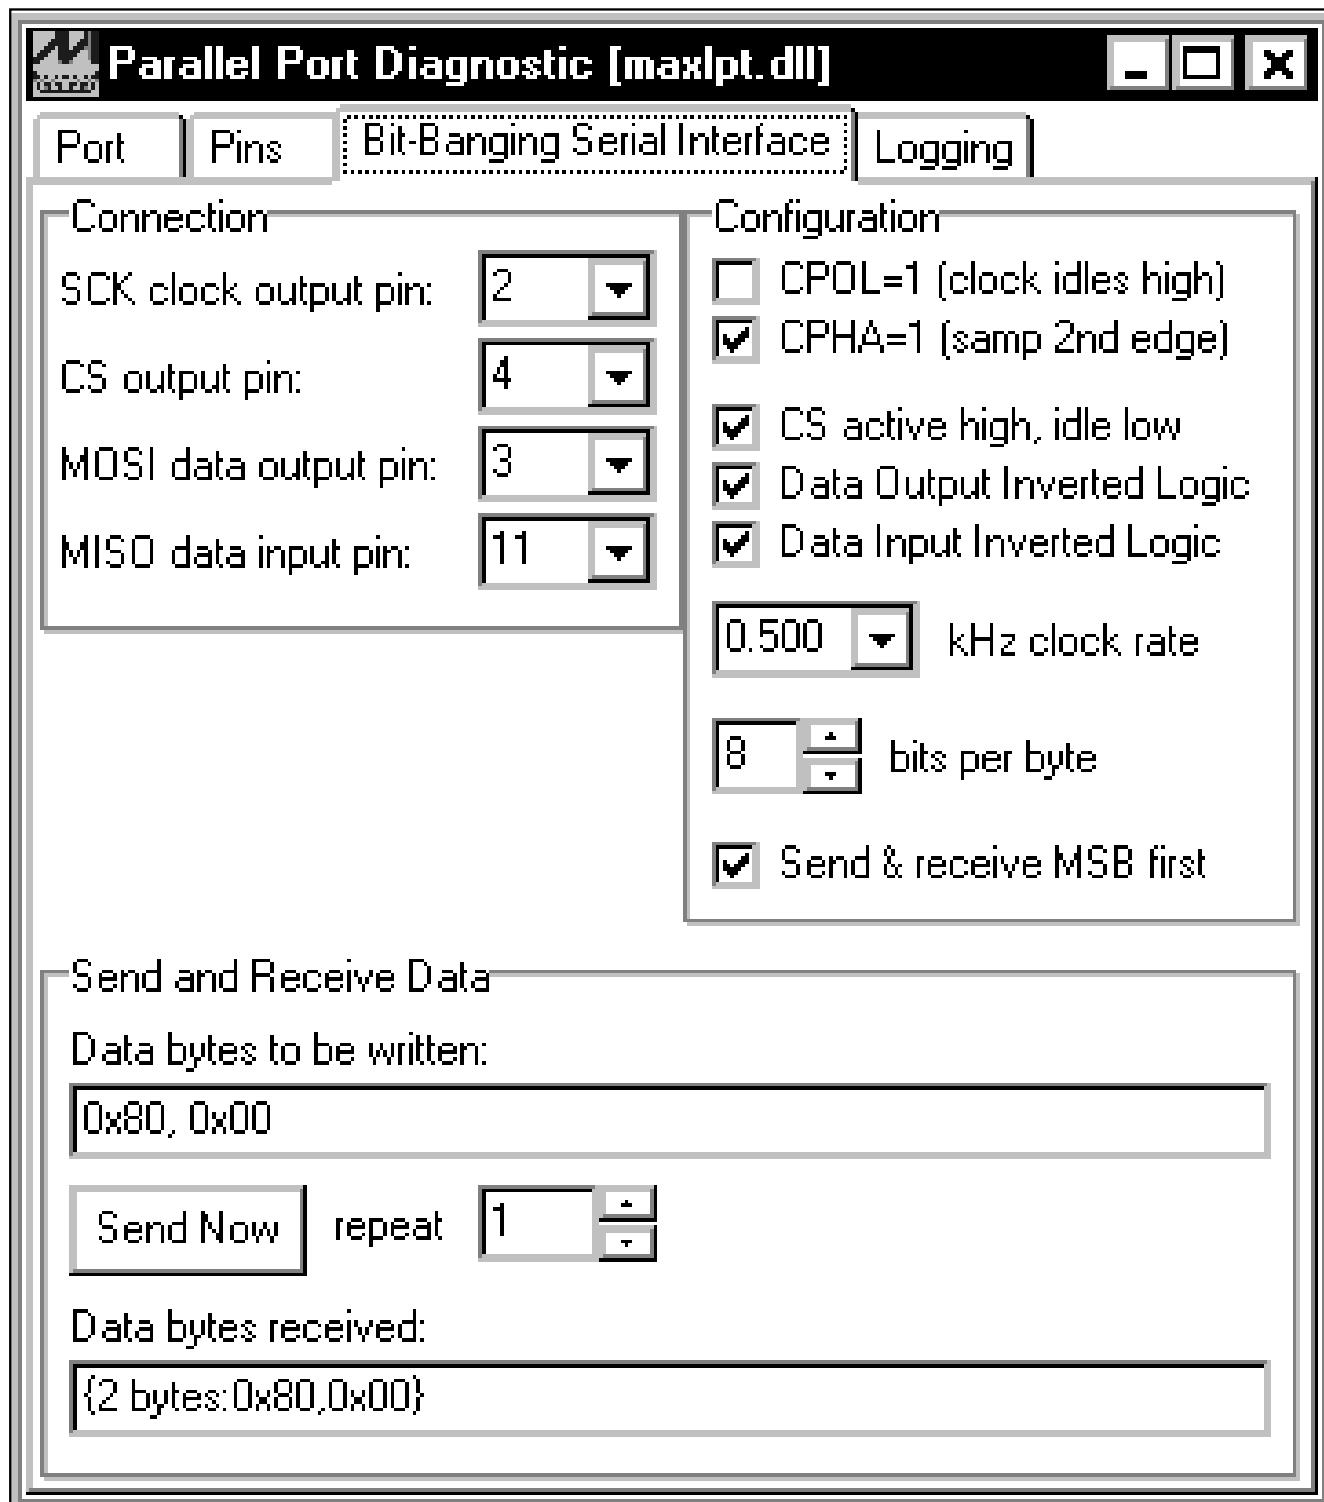

Figure 3. SPI Utility Showing the Settings to Communicate with the MAX1978 EV Kit
There are two methods for communicating with the MAX5144 DAC: through the user-interface panel or through the general-purpose SPI utility. This utility (Figure 3) configures SPI parameters such as clock polarity (CPOL), clock phase (CPHA), and chip-select (CS) polarity. The fields where pin numbers are required apply to the pins of the parallel port connector.